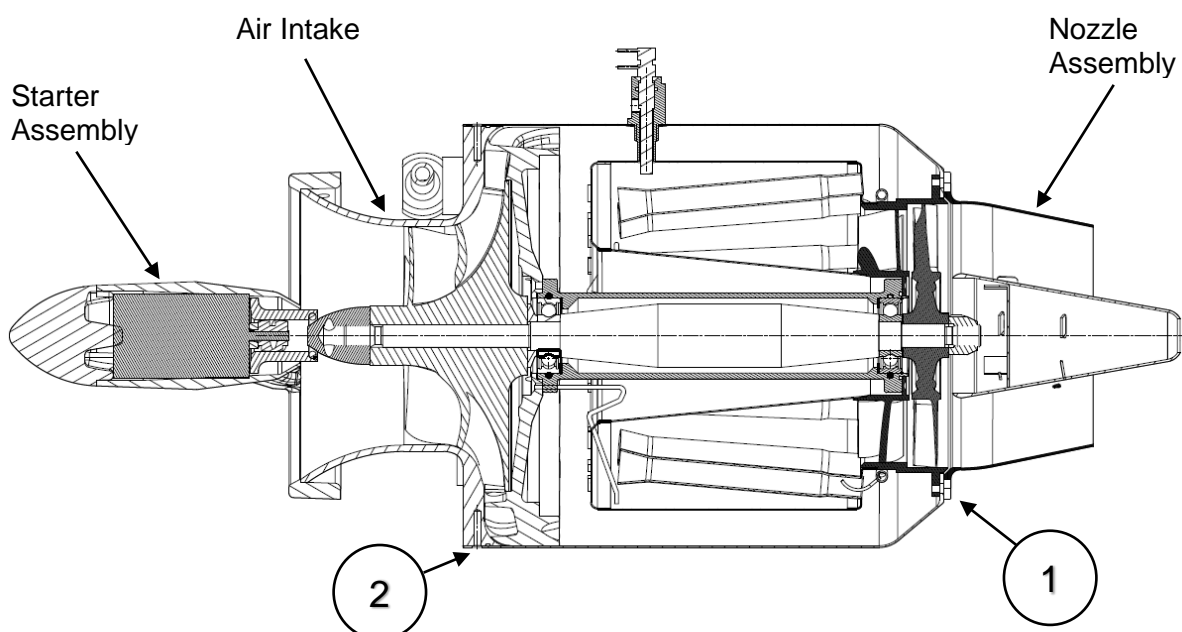

Figure 5-2: Jet Engine Assembly; Front cover not depicted
3. Loosen the screws at the engine, clamping the Engine Shroud (see Position 2 in Figure 5-2), and remove the shroud by sliding it forward.
2. Remove all 12 pcs. M3x10 cap screws DIN 912 (04-682) and 12 pcs. washers at Position 1 in Figure 5-2 and remove the nozzle.
1. Loosen the EGT Sensor support bracket at Position 2 at Figure 5-2.
4. Tighten all screw of the engine shroud with 1.3Nm of torque (see Position 2 in Figure 5-2). Use Loctite 243.